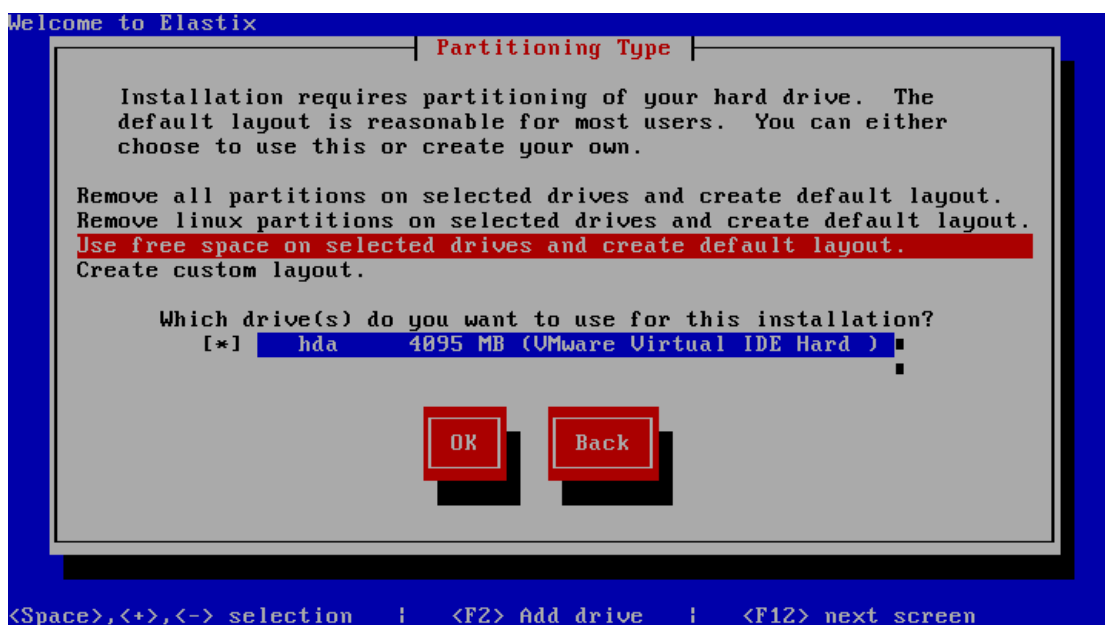

Figure 4
4. Next is the partitioning operation. You have four options to select. For a brand new HD, select the default setting 'Use free space on selected drivers and create default layout'. For an HD with some data already, if you want to discard it, use the option 'Remove all partitions on selected drivers and create default layout'; if you want to keep the old data, select the option 'Create custom layout' to do partitioning. What we use here is a new HD. Select the default setting and click on 'OK' (Figure 4).